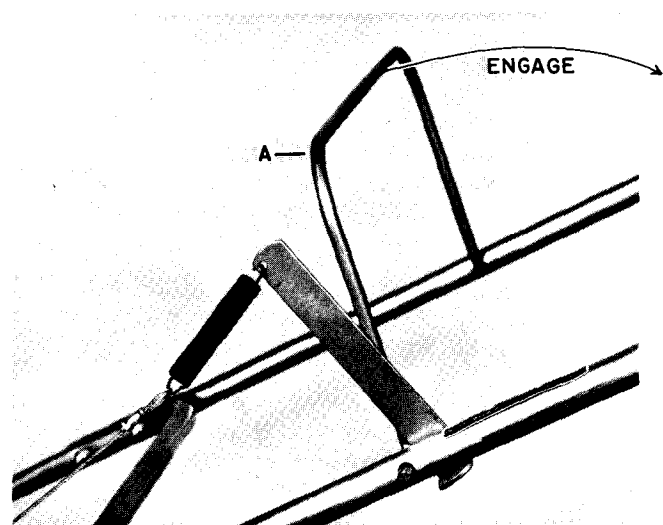

Figure 4
3. Connect control cable spring to control cable with offset spring end clipped to the arm on the bail control. (Fig. 4)